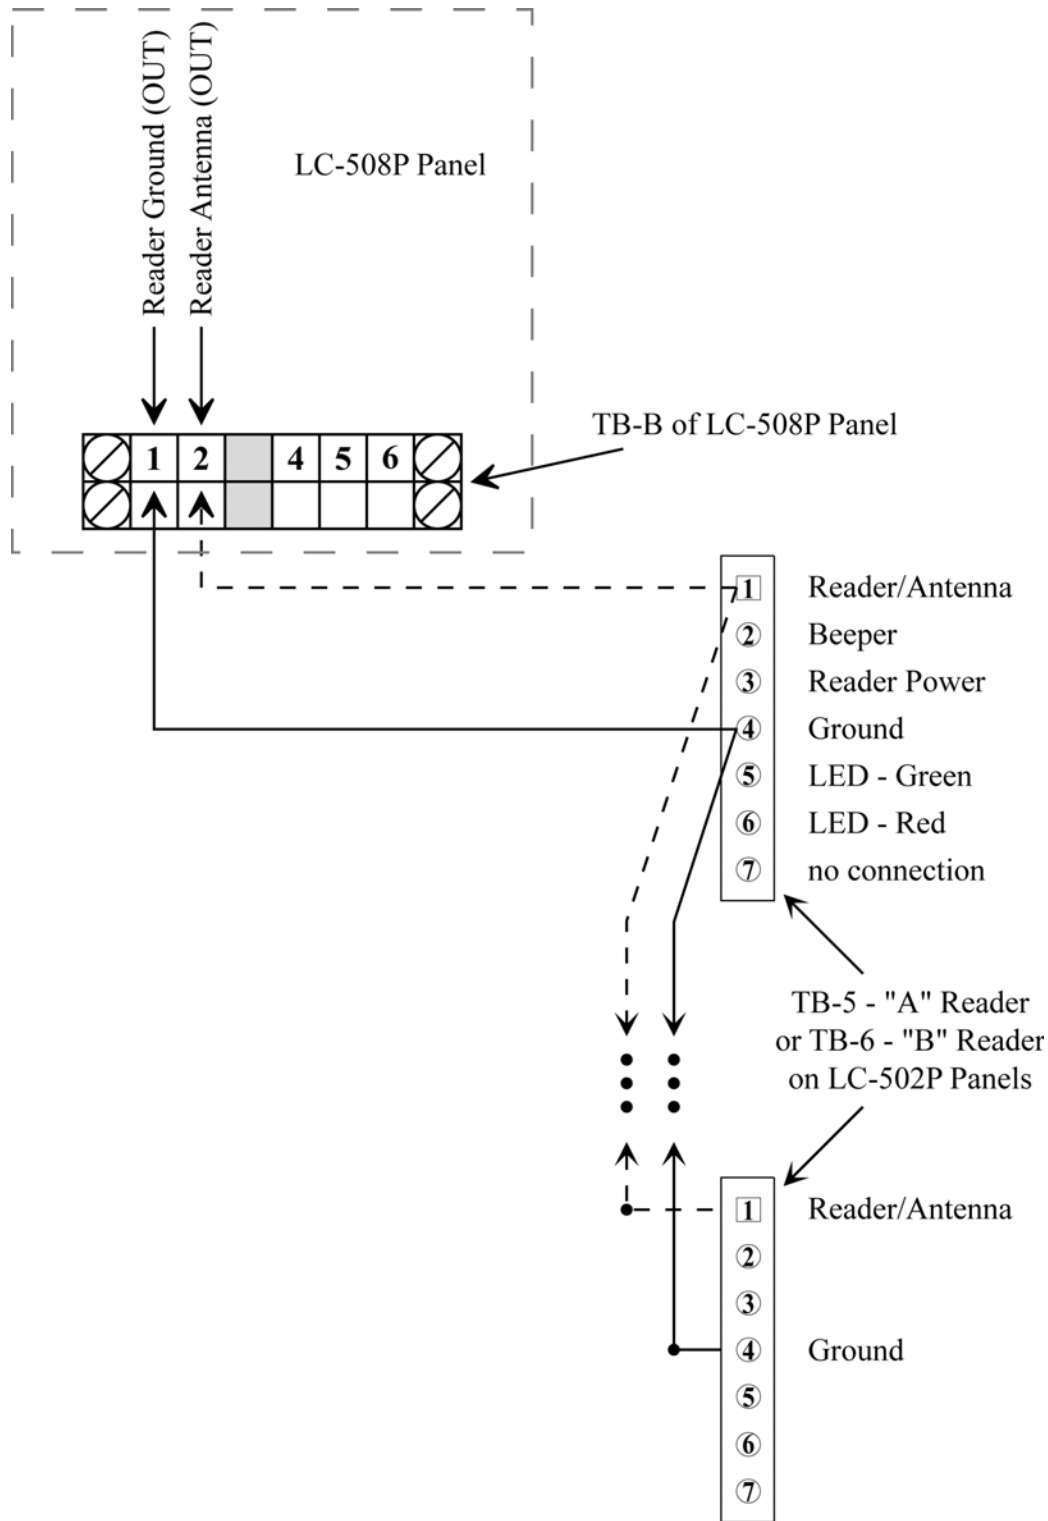

Figure 11: LC-508P to LC-502P Reader Wiring Connections
2. Daisy-chain the Antenna and Ground reader connections from the LC-508P panel to the LC-502P panel(s). Make the connections per the information in Table 5 and Figure 11 on page 18.